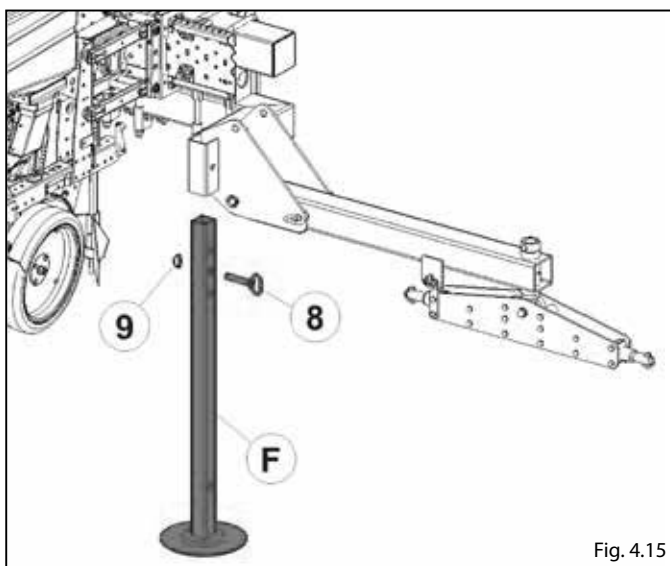

Fig. 4.15
- Mount the support foot **F** by fixing it with pins **8 - 9** (Fig.4.15).